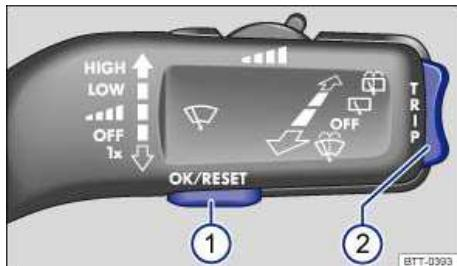

Fig. 16 Basic version (vehicles without menu control multi-function steering wheel): Control buttons 1 and 2 on the windshield wiper lever.
In the Basic version, the instrument cluster displays are controlled by the **OK/RESET** button and the **TRIP** rocker switch on the windshield wiper lever (\Rightarrow fig. 16 (1) and (2)).